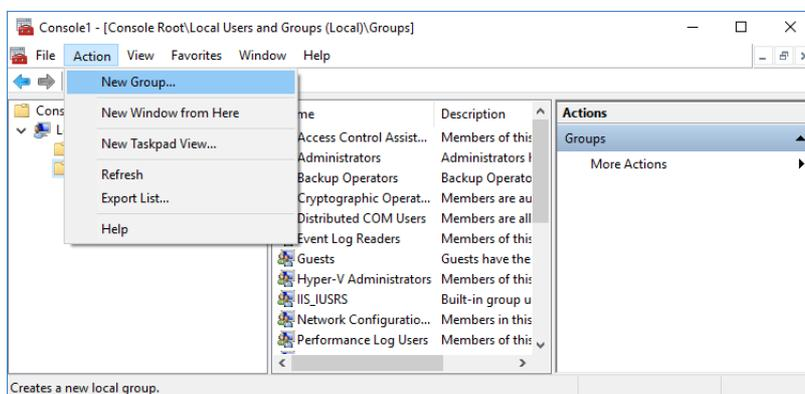

Figure 2-6. Creating new group
1. Click **Action > New Group**, see Figure 2-6.